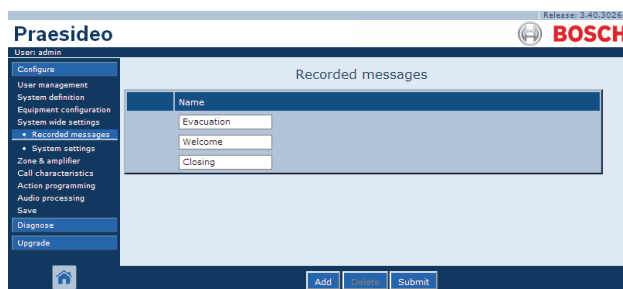

figure 45.2: Register message, step 1
- 1 Go to *Configure > System wide settings > Recorded messages*. A screen similar to the one in figure 45.2 appears in the main frame of the web interface.